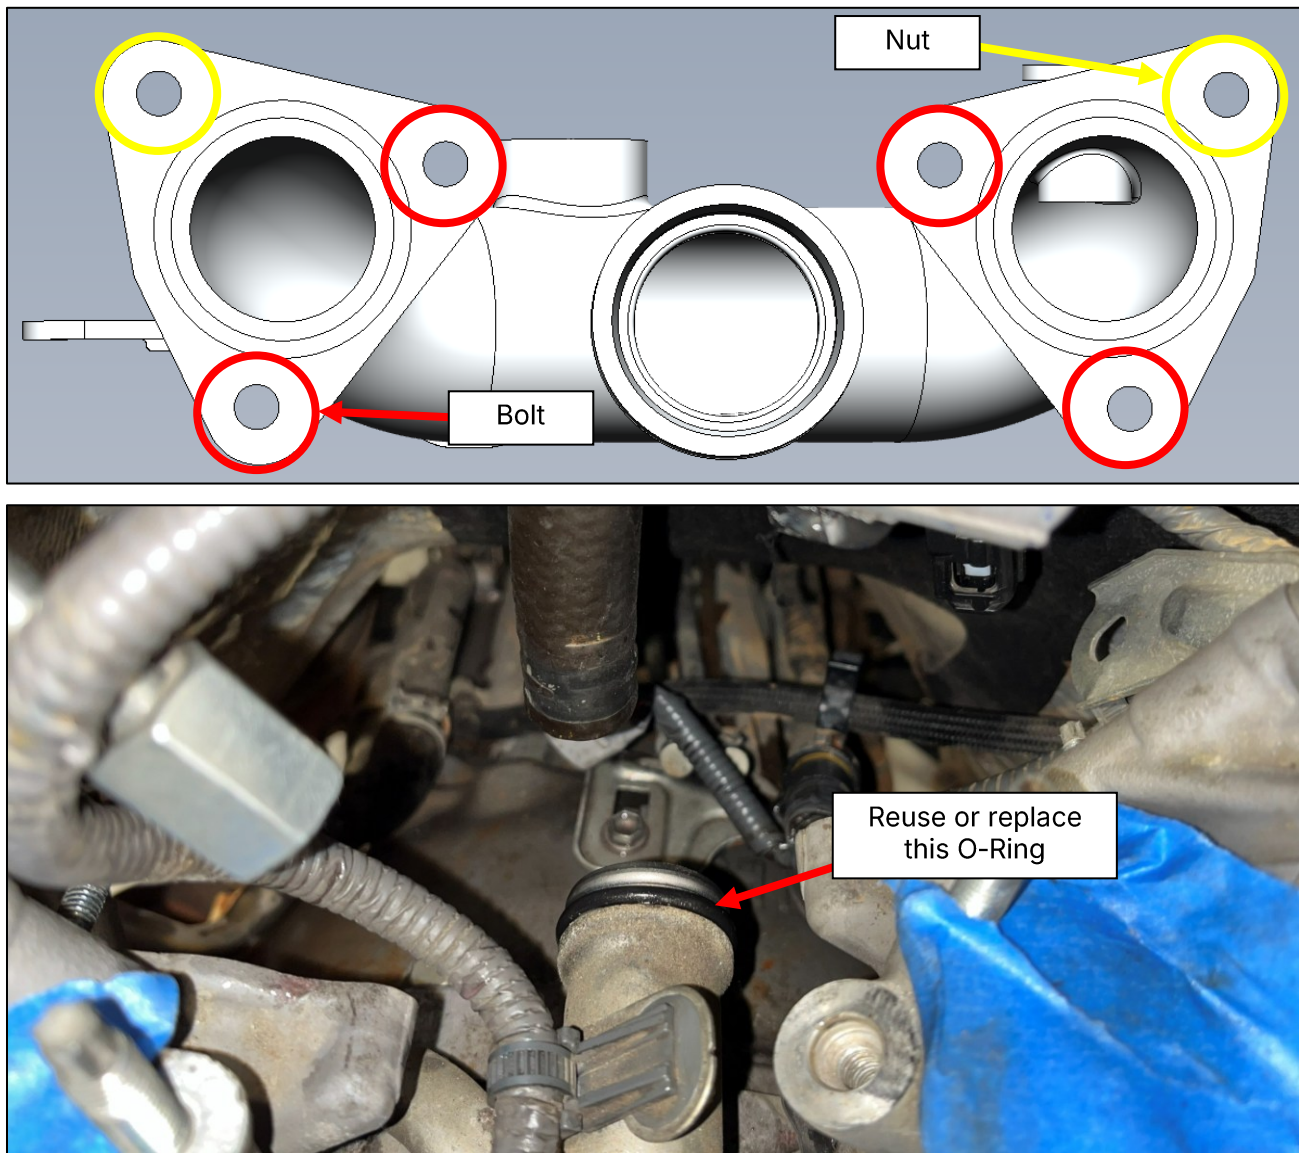

Figure 14
28. Remove the OE Coolant Bypass Pipe from the Engine. It is held on by (4) four bolts and (2) two nuts. This process can be very difficult and tedious, as the lower bolts are impossible to see and there is limited access for tools. Take your time removing the hardware. Once all hardware is removed, push the Bypass towards the Firewall to separate it from the Engine and disconnect the Wiring Harness Clip to fully remove it. The O-Ring on the Center Pipe can be reused or replaced with a new one. *Figure 14.*